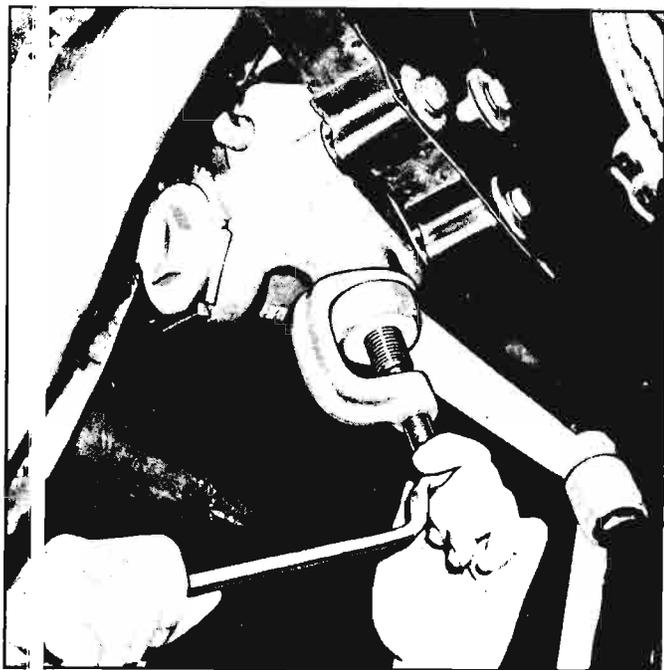

Fig. 4-5—Removing Pitman Arm With Tool J-6627
2. Loosen pitman shaft lash adjuster screw lock nut (fig. 4-5) and turn the lash adjuster screw a few turns counterclockwise to remove overcenter load (increase lash). Gently turn the wheel in one direc-